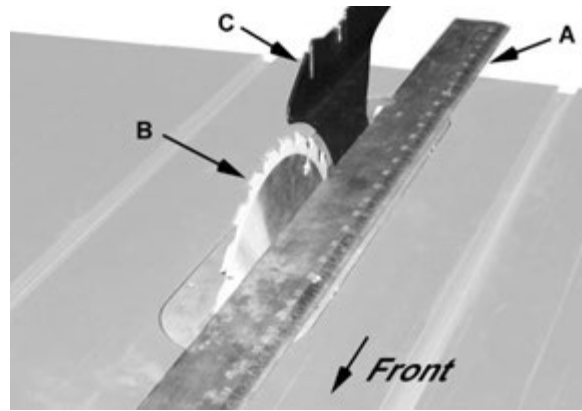

Figure 13
2. Place a *straightedge* (A, Fig. 13) on the table so it rests against the *blade* (B, Fig. 13) and *riding knife* (C, Fig. 13). Rotate the blade so the top of the blade tooth touches the straightedge.